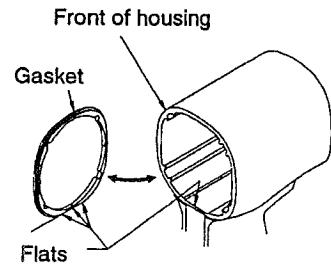

Figure 19
1. Position the Motor Housing (19) in leather-covered vise jaws with the splined shaft of the Rotor in a horizontal position.
3. Position the Hammer Case Gasket (18) against the face of the Motor Housing.
- NOTICE:** Be sure that the flat on the bottom of the Hammer Case Gasket is installed in the corresponding flat in the Housing. If the Hammer Case Gasket is not installed correctly, the Air Wrench will not function properly. See Figure 19.
4. Apply a thin film of Craftsman No. 18830 Grease on inside surface of the Hammer Case Bushing (16), and place the Hammer Case (15) down over the Anvil and against the Motor Housing.